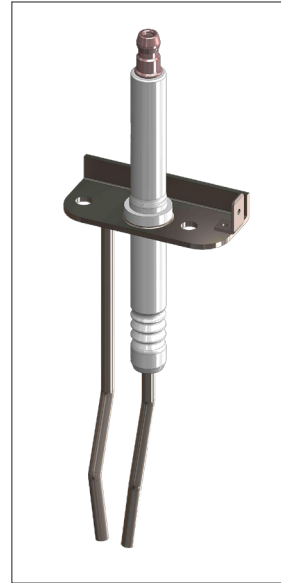

Fig. 7 - Prestige Trimax - New Igniter
2. Install the new igniter (See Fig. 7), with its new gas-